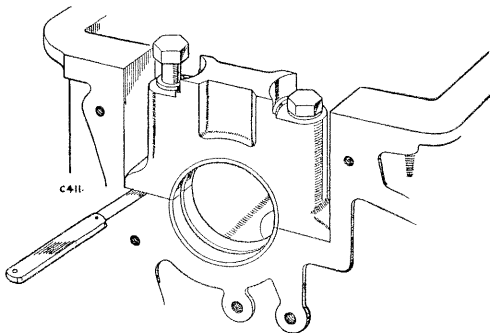

Fig. A-41—Checking main bearing nip
1. Remove the bearing caps and fit the bearing shells, locating by means of the tags. Tighten the caps down and slacken off one bolt of each pair. Check the bearing nip, as illustrated in Fig. A-41, ensuring that the clearance does not exceed .004 to .006 in. (0,10 to 0,15 mm). The nip can be corrected by selective assembly of bearing shells; these are available in slightly varying thicknesses.